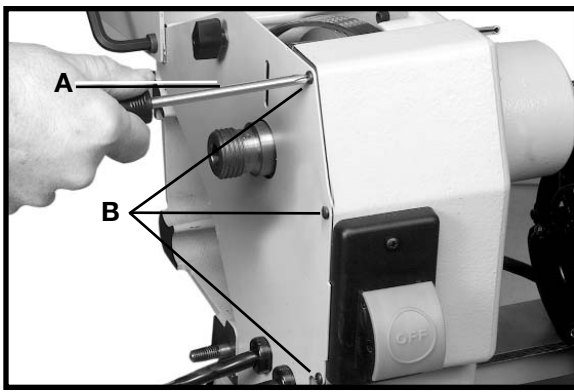
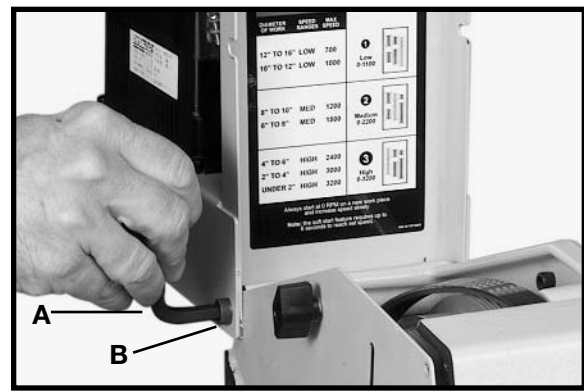

Fig. 75
Fig. 76
5. Use a Phillips screwdriver (A) Fig. 75 to remove the five cover screws (B) (three of which are shown). The other two screws are located under the power cords.
6. With a 5/16" Allen wrench (A) Fig. 75, remove Allen screw (B) Fig. 76. **NOTE:** When re-assembling, make sure that the screw passes completely through the pivoting control bracket and into the headstock, allowing the headstock cover to pivot.
7. While holding the control panel (A) Fig. 77 with one hand, remove the cover (B) Fig. 77. To prevent the control panel (A) from falling, loosely re-attach the Allen screw (B) Fig. 76 to the control panel.